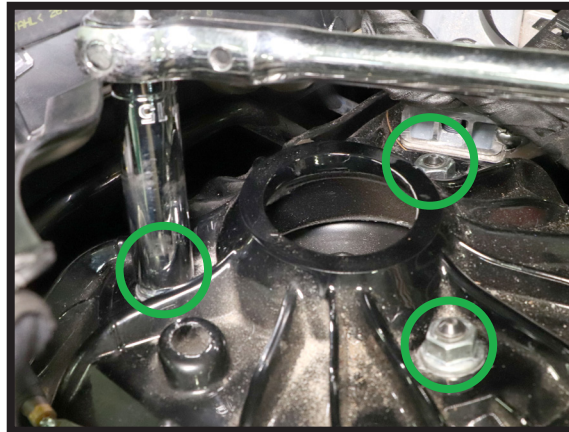

FIGURE 12
9. REMOVE THE THREE (3) TOP MOUNT NUTS. (FIGURE 12)